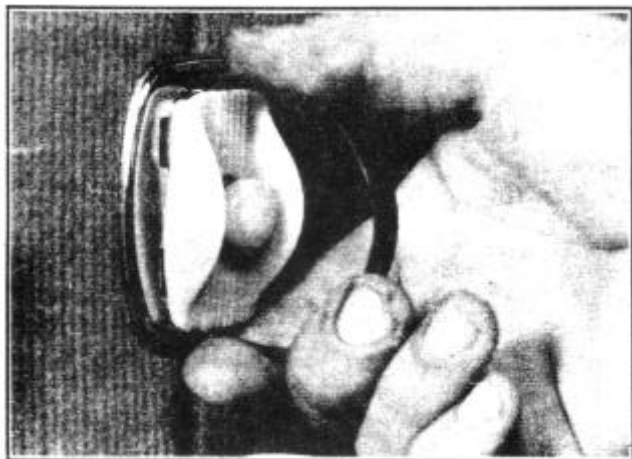

FIGURE 162
To remove a switch from its mounting, a special tool, KMO-685, is available. This tool fits in a notch at either end of the housing, Figure 162, to unlock the snap locks, releasing the switch assembly for removal straight out from its mounting in the door panel.
5. Remove window regulator switch (electric) using Tool KMO-685, Figure 162.